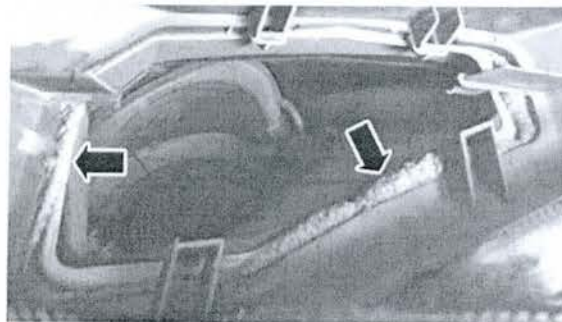

Figure 1 - Article 14-0157
5. Remove the excess foam seal material from around the inside of the leaf guard rain hat. (Figures 1 and 2)